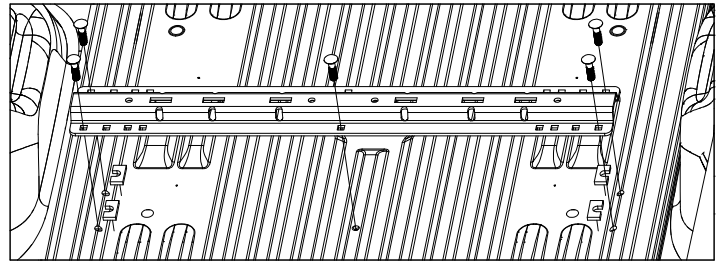

Figure C1: View looking into truck bed from rear of truck
1. **Install the rear mounting rail.** Re-position the rear mounting rail over the drilled 9/16" holes in the bed. Install a 1/2" Carriage bolt through the mounting rail into each of the five drilled holes, as shown in figure C1.